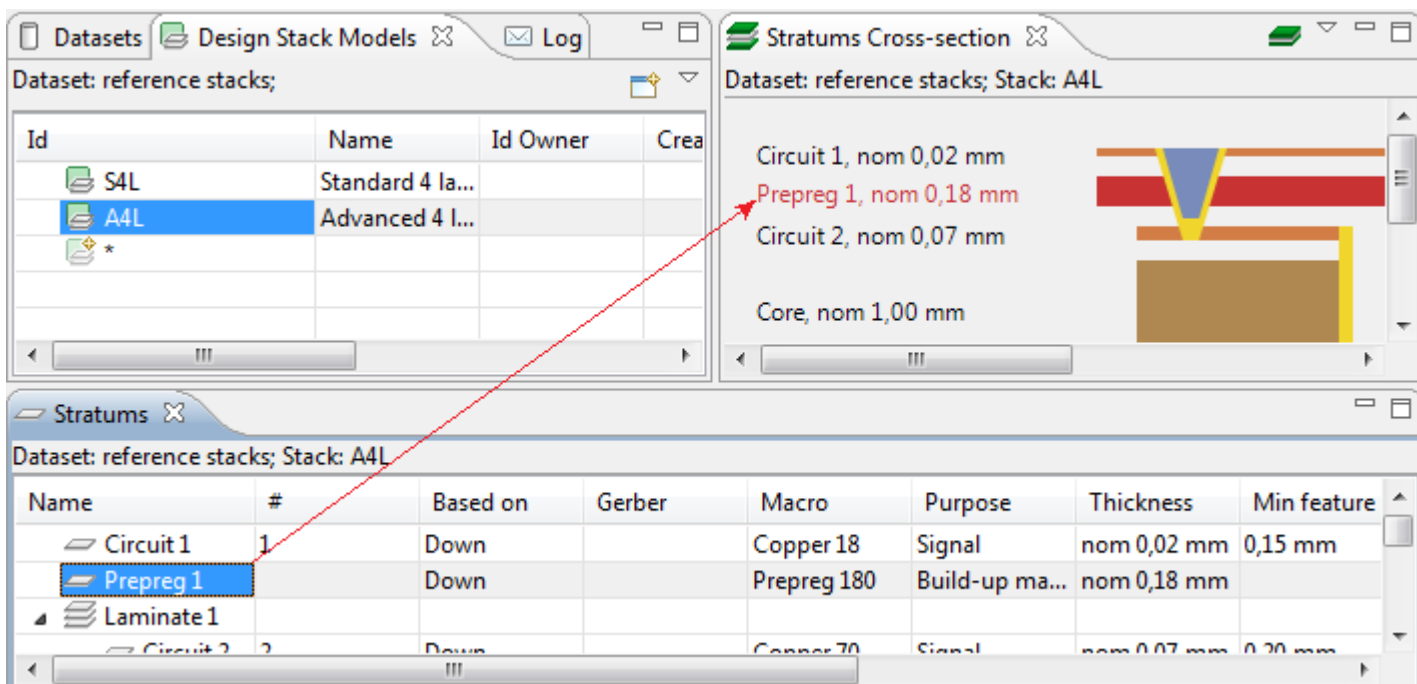

Figure 3. Selected layer/stratum is highlighted in Stratums Cross-section view
- Selecting an element in the **Stratums** view shows the selected element highlighted in the **Stratums Cross-section** view (see Figure 3).